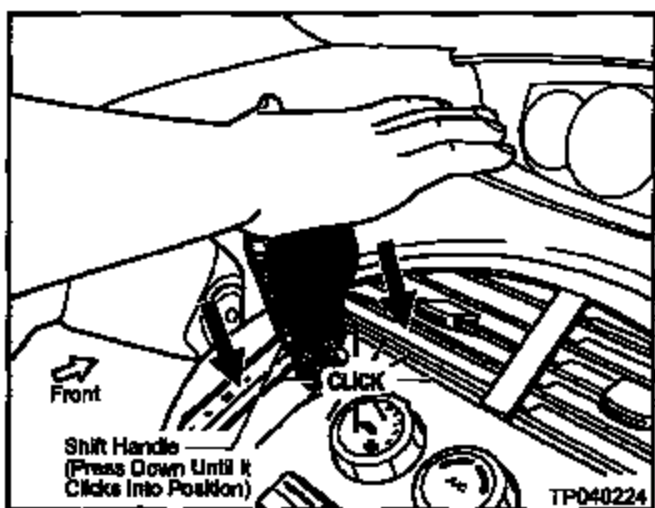

Figure C4
- Press down on the new Handle until it "Clicks" (see Figure C4). The "Click" means that it is locked into position.